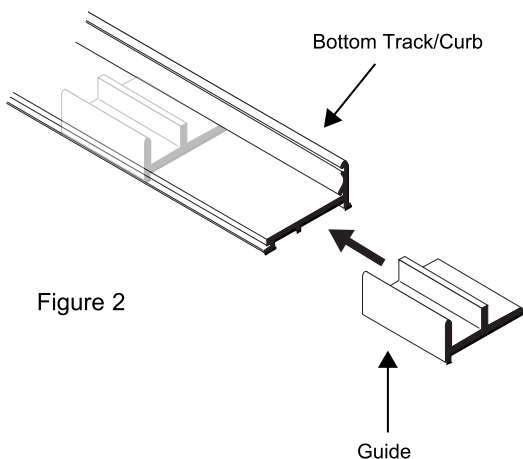

Figure 2
- F. Slide guide #4 into one end of bottom track/curb #2 and place near middle of track. (See Figure 2)
- G. Cut two pieces of Tape 18" long. Next, use the Caulking Gun to apply a thick bead of Silicone sealant (approximately 3/8" in diameter) to the bottom surface of the Bottom Track/Curb (#2) along its entire length. Place the Bottom Track/Curb (#2) on the shower sill, in the position you determined in Step 3B. Use the two strips of Tape to temporarily hold the Bottom Track/Curb (#2) in place. Tape should be 2" or more away from the walls so that the tape will not be in your way when you install the Wall Jamb (#3) (See Figure 2).